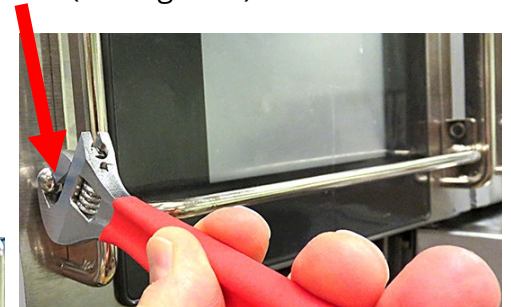

Figure 8
11. If a guard rail is installed, remove the acorn nuts, washer and plates on both ends of the guard from the **far-left controller** (see Figure 8).